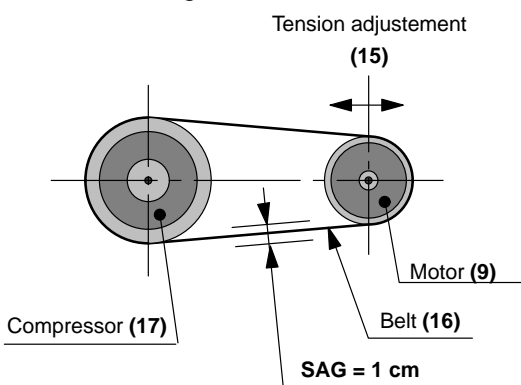

fig.15a
- check belt condition and tension (see fig.15a)